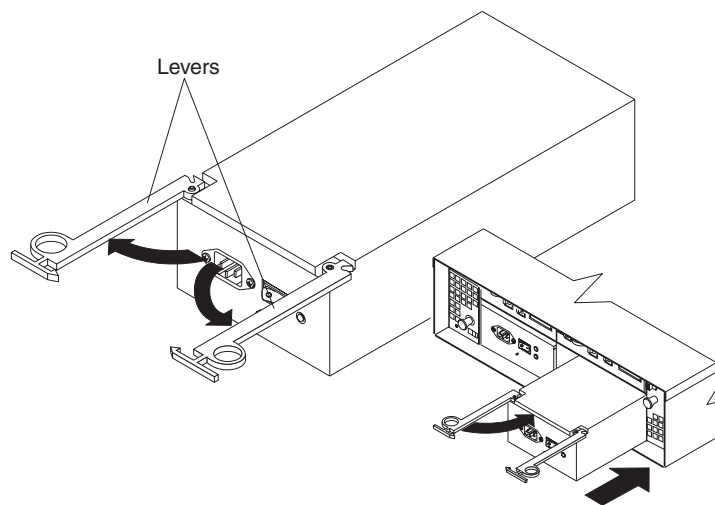

Figure 12. Replacing a power-supply CRU
1. Slide one power supply into the expansion unit. Be sure the levers are pulled straight out as you slide the power supply into the expansion unit, as shown in Figure 12.